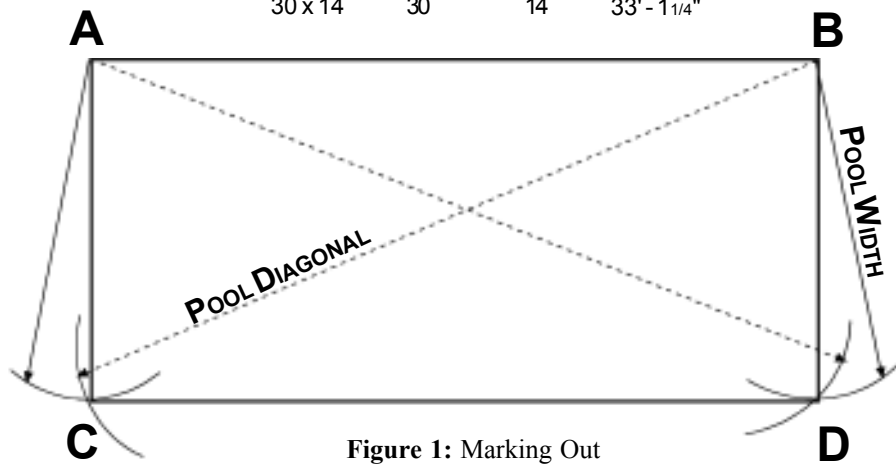

Figure 1: Marking Out
2. At points A & B mark 2 arcs in the positions shown using pool width measurement. **See fig 1.**
3. Again using points A & B mark 2 further arcs as shown using the *diagonal measurements listed*, where the arcs cross determine points C & D, points A, B, C & D form a true rectangle. **See fig 1.**